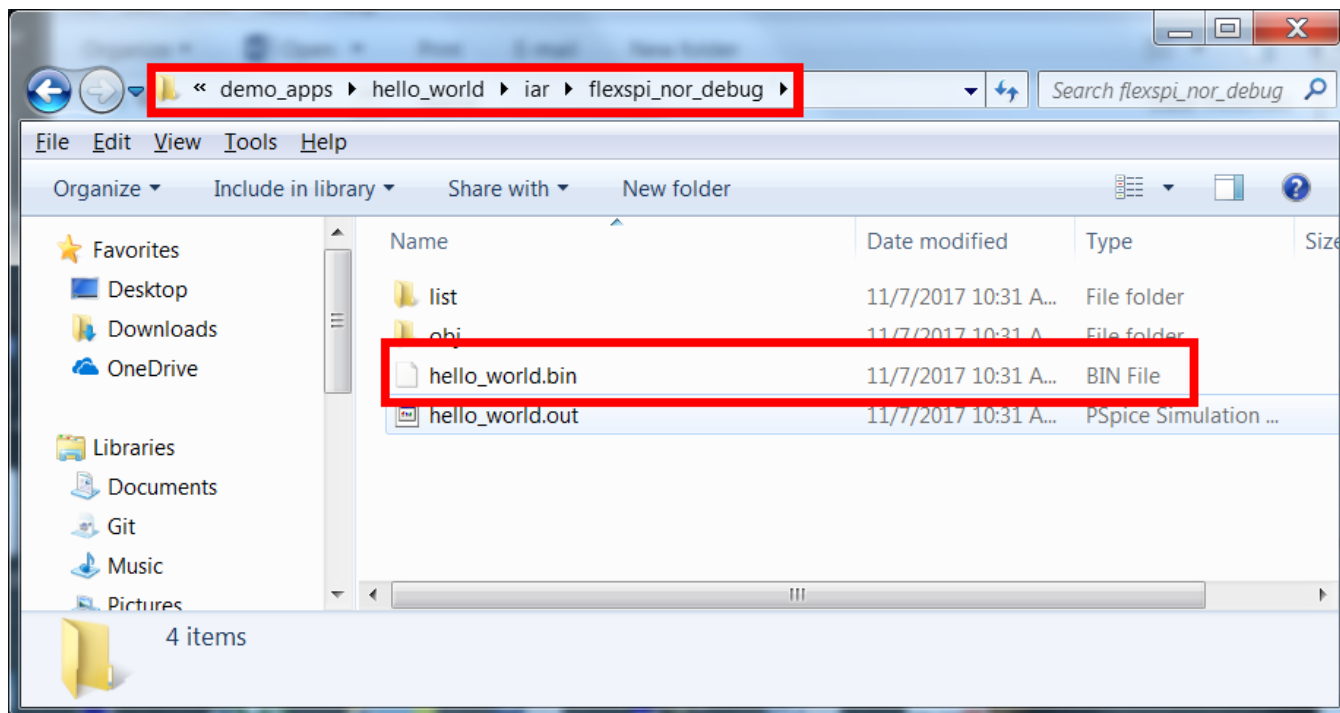

Figure 5. hello\_world.bin location
- Build the project and generate an image. You can find the hello\_world.bin at following location (Figure 5).